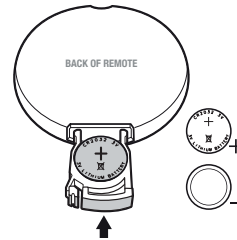

Fig.8
5. Reinsert the battery compartment into the remote control ensuring that the + symbol is facing upwards when inserted. Make sure the battery compartment is correctly secured (Fig 8).